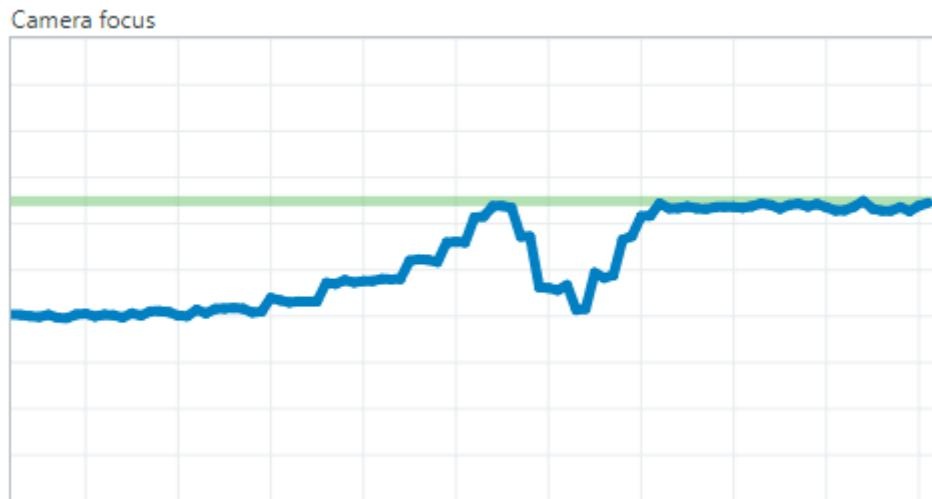

Figure 11: Camera focus curve
- ✓ The **Camera focus** curve (see figure 11) shows the analyzed quality in the focus region with a blue line.